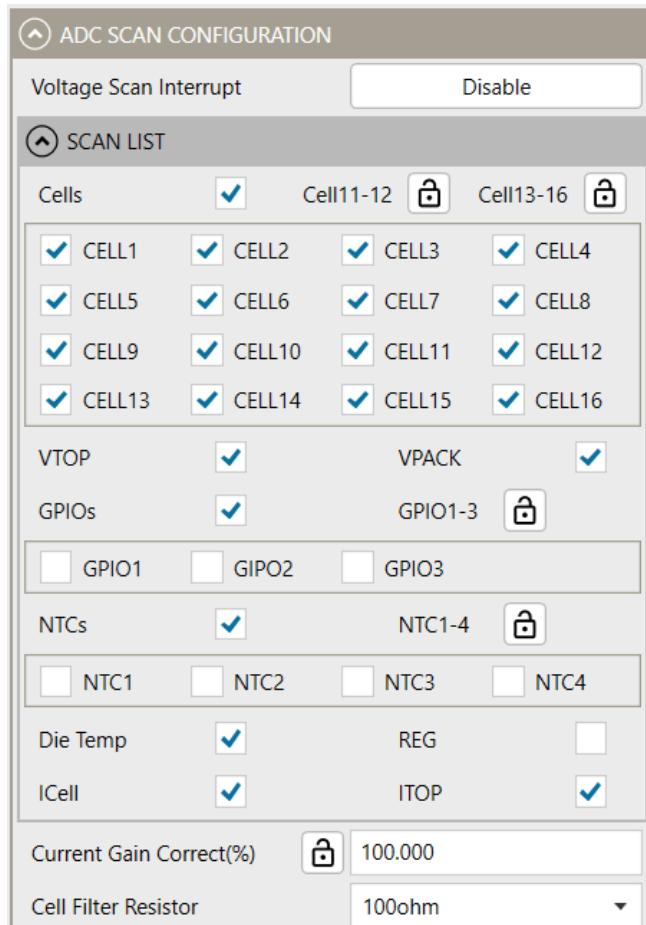

Figure 14: ADC Scan Configuration
9. Figure 14 shows how to configure the ADC scan parameters.